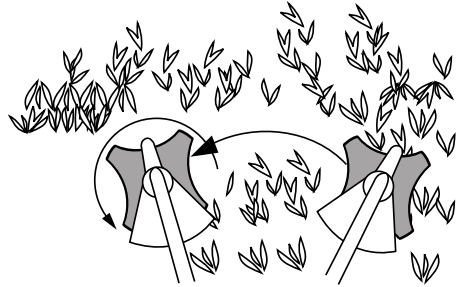

Fig. 28
- Swing the unit into material to be cut from your right to your left (Fig. 28).